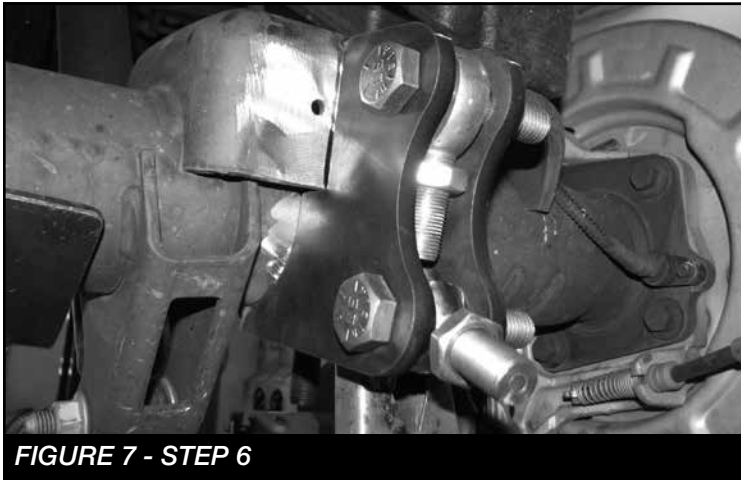

FIGURE 7 - STEP 6
6. Install the assembled part by lining up the inside bracket with the line you made on step 4. Tack weld into place. **SEE FIGURE 7**